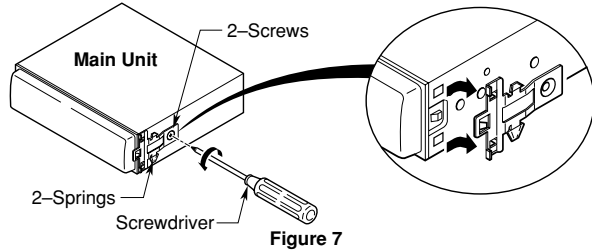

Figure 7
1. Remove the screws at both sides of the main unit and slide the springs to the direction of arrow and remove them (Figure 7).